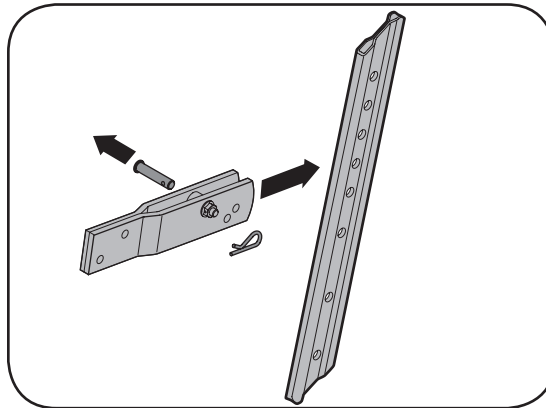

Figure 3-5: Disassemble depth gage if necessary.
1. Disassemble the depth gage assembly as seen in Figure 3-5. Retain the pin and clip for later reassembly.